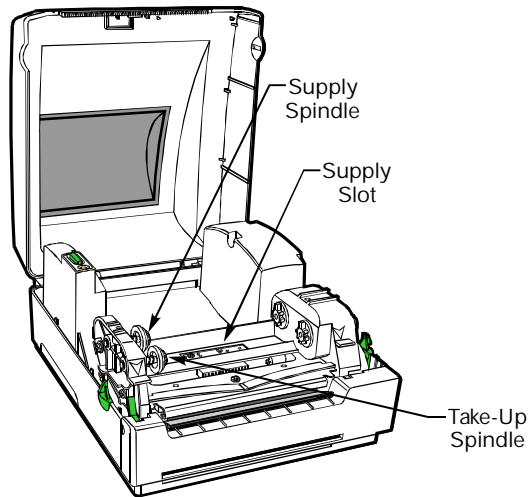

Figure 26
Figure 26 shows the location of the ribbon supply spindle, ribbon take-up spindle, and ribbon supply slot.
7. Thread the ribbon leader into the ribbon supply slot (refer to Figure 26 for the location of the supply slot).